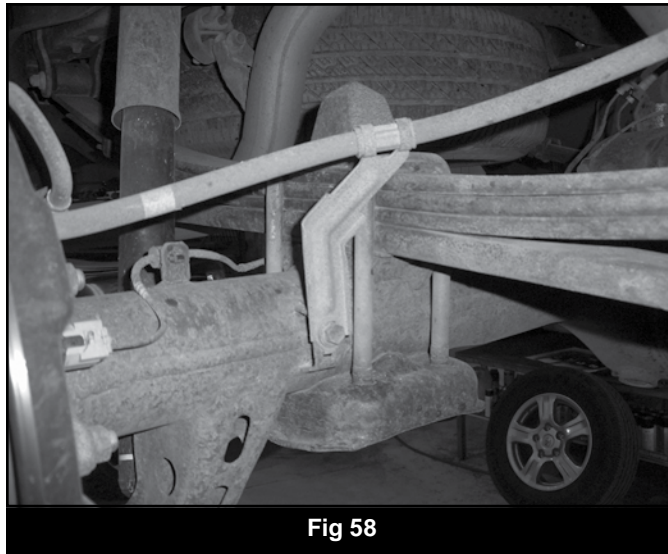

Fig 58
4. Disconnect the parking brake cable brackets from the driver's and passenger's side of the axle (Fig 58). Remove the brackets from the cables.